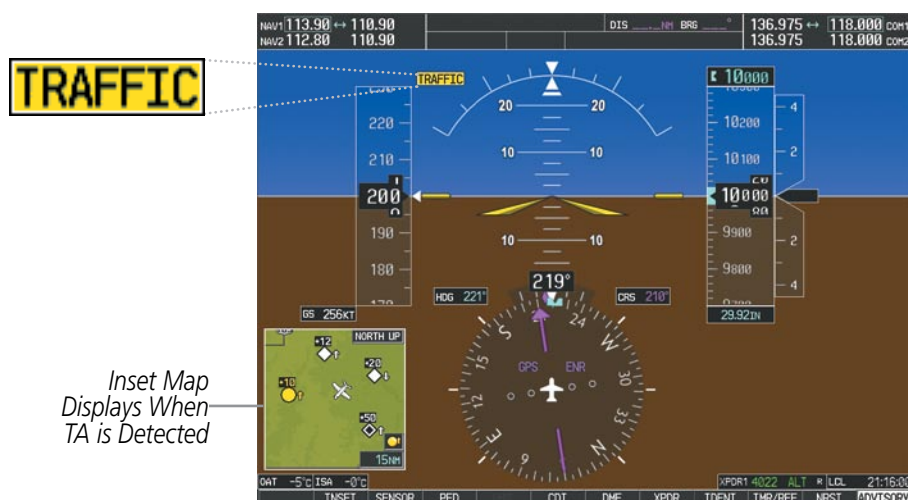

Figure 6-116 Traffic Annunciation (PFD)
- A TRAFFIC Annunciation appears at the top right of the airspeed on the PFD, flashing for five seconds and remains displayed until no TAs are detected in the area (Figure 6-116).